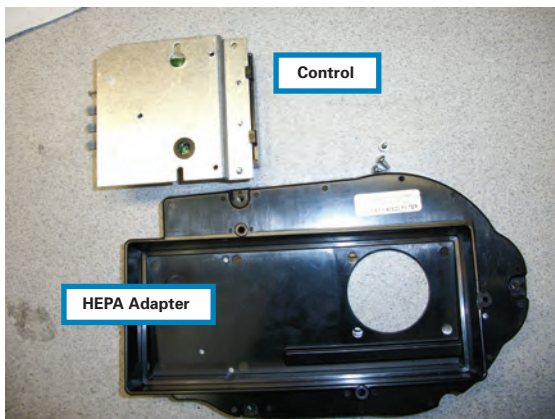

Figure 7
7. Arrange control (previously removed) and the HEPA Filter Adapter as shown (Figure 7)